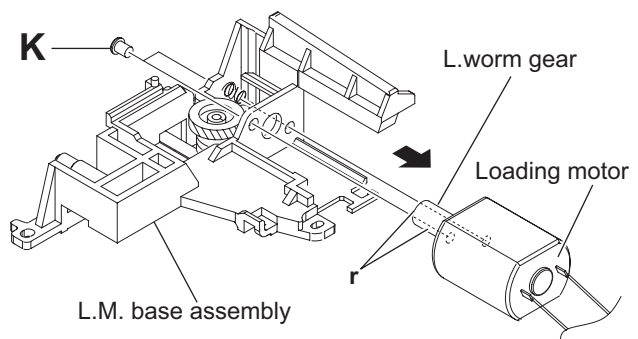

Fig.20
3.2.12 Removing the loading motor (See Fig.20)